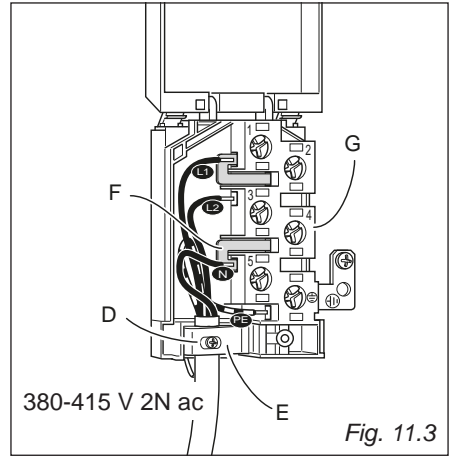

Fig. 11.3
- Connect the phase, neutral and earth wires to terminal board “G” according to the diagrams in fig. 11.3.